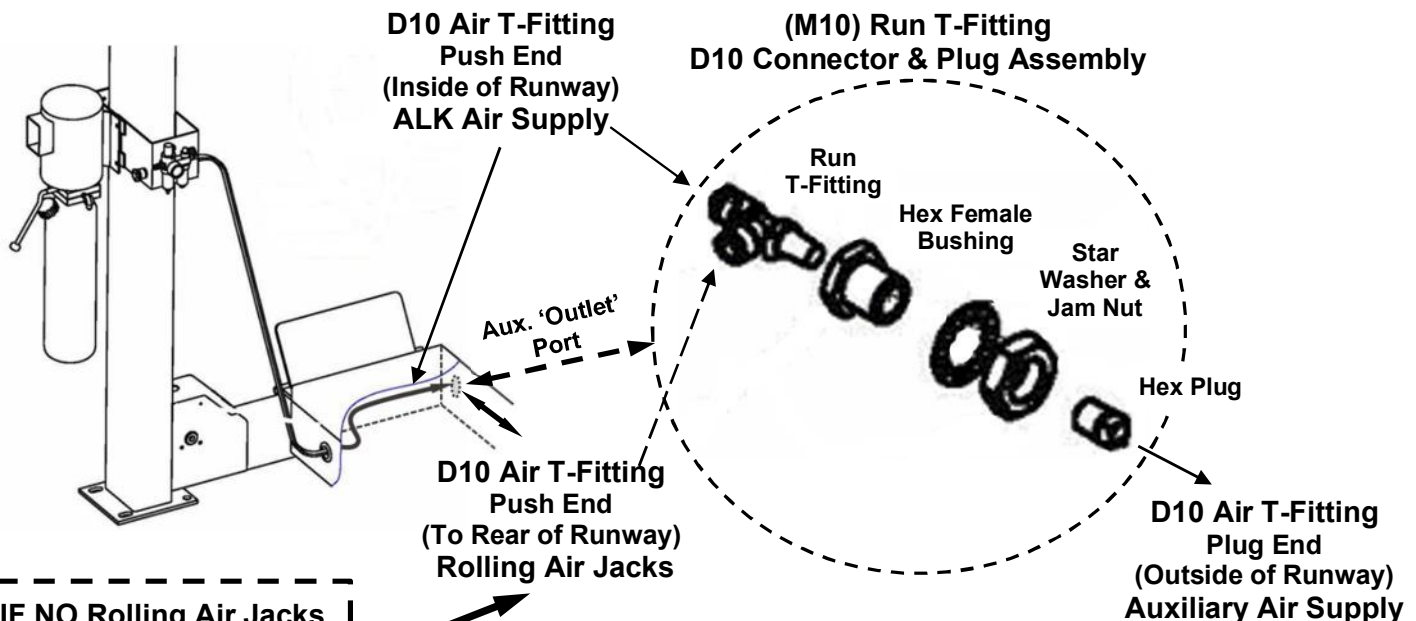
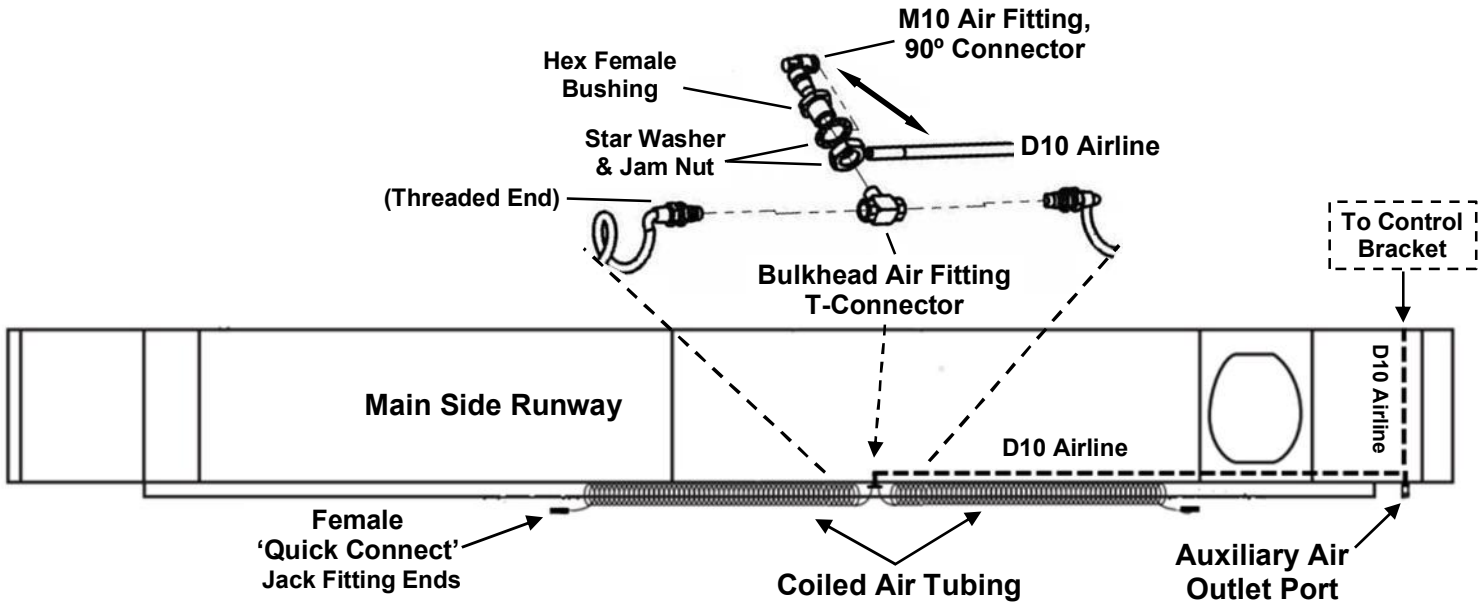

Fig. 7
Fig. 8
- 1) For Auxiliary Air Outlet Port. mount the (M10) Run T-Fitting Connector & Plug Assembly to runway port, ensuring the T-section of Run T-Fitting is pointed towards the rear of runway, with the Hex Female Bushing & Plug end inserted through port hole in Runway. Secure T-Fitting with 45mm Jam Nut, **Fig 7**.
- 2) Using the previously routed D10 Airline, cut airline to length (if needed) to connect to the T-Fitting's push end port, directly across, ensuring the D10 airline is routed above & clear of Cable Pulleys, **Figs. 7 & 8**.
- 3) Mount the (M10) Bulkhead Air Fitting T-Connector to the middle of section of Main Side Runway, ensuring the $\frac{3}{4}$ " end is positioned to the outside of runway towards jack rails. Secure Bulkhead Air Fitting T-Connector to runway with 45mm Female Busing, Washers & Jam Nut. Next, mount (M10) Air Fitting 90° Connector to Hex Female Bushing, positioned to the inside of the runway, **Fig 8**.
- 4) Using D10 x 110+Airline, connect to Auxiliary Ports T-Fittings, push end, on the inside of front of runway, **Fig. 7**; then route D10 airline to connect to the (M10) Air Fitting 90° Connector, **Fig. 8**.
- 5) Connect both Coiled Air Tubing's threaded ends to each side of the Bulkhead T-Connector. Note: The Female Quick Connector ends will connect to Rolling Jacks, **Fig. 8**.